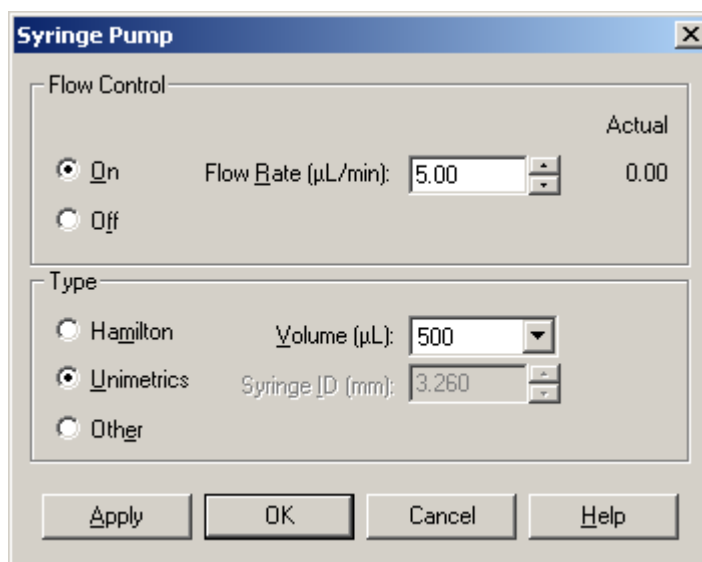

Figure 21. Syringe Pump dialog box
1. Click on the Syringe Pump button to display the Syringe Pump dialog box. See Figure 21.